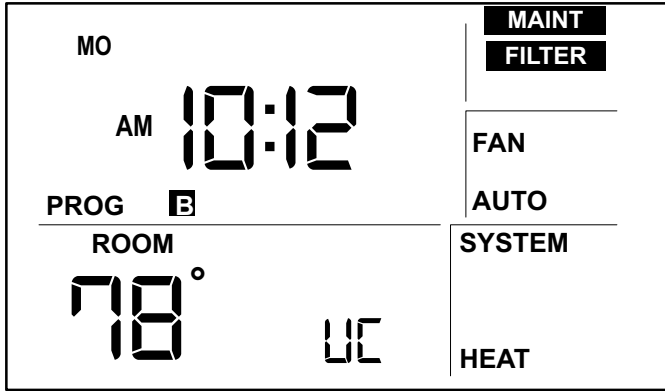

Figure 15. Reminders
*NOTE - The HOME screen will reappear about 15 seconds after the final arrow button press. OR, press **ENTER** at any time to store any changes and exit to the HOME screen. After either programmed interval has elapsed, the reminder will be displayed as shown in figure 15.*